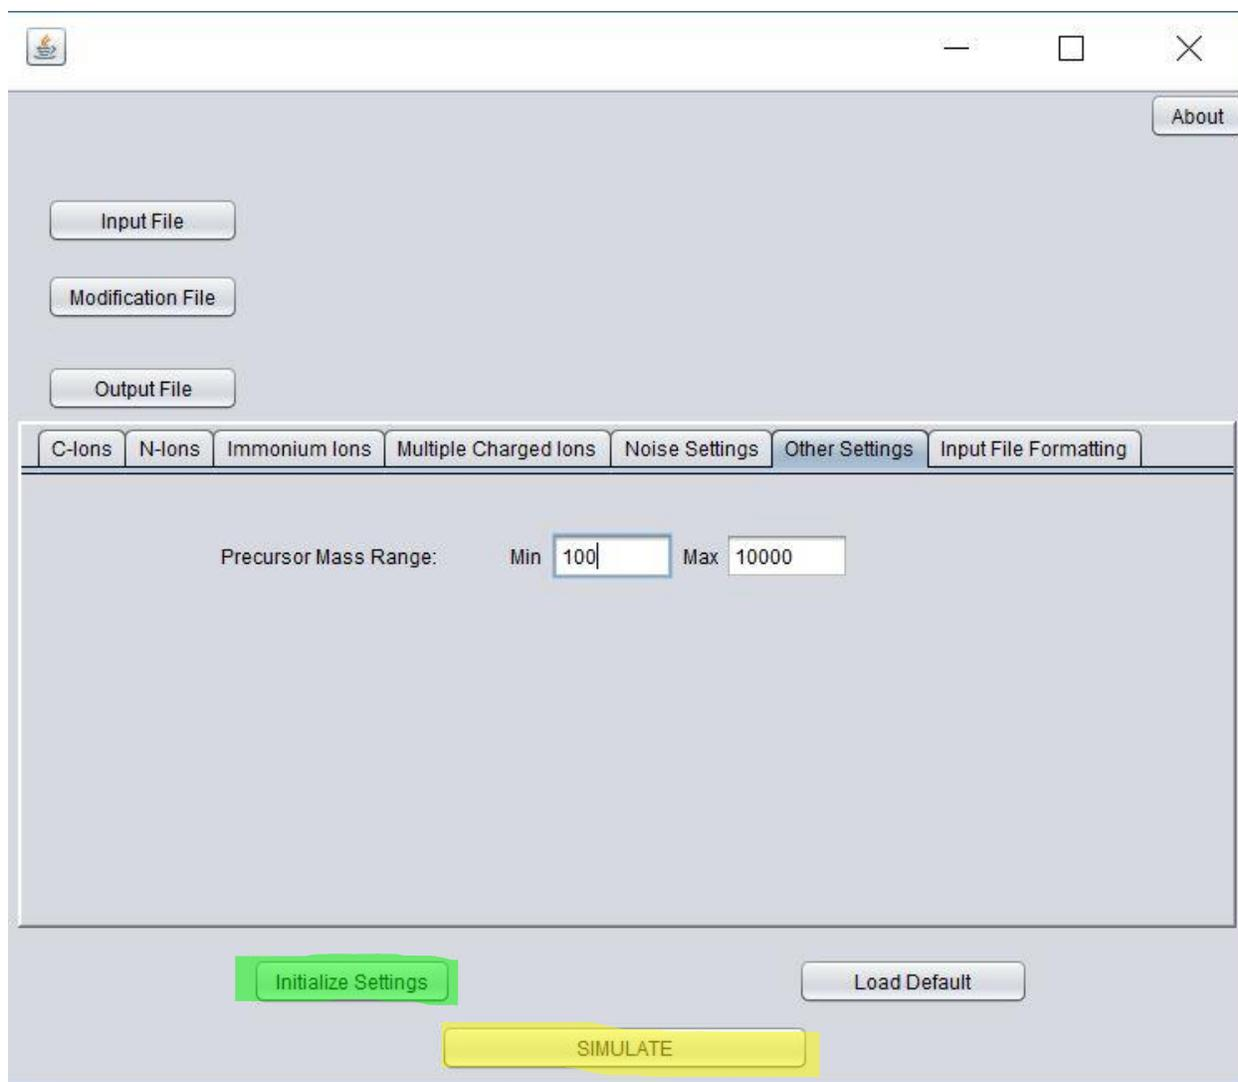

Figure 9
- Once all the parameters have been set and input/output files have been selected. Click *Initialize Settings* (highlighted in green) and then click *SIMULATE* (highlighted in yellow) to execute. Please refer to Figure 9.